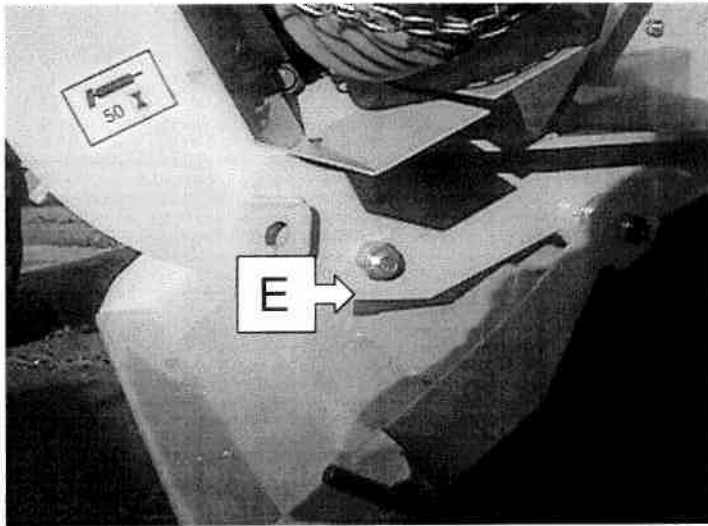
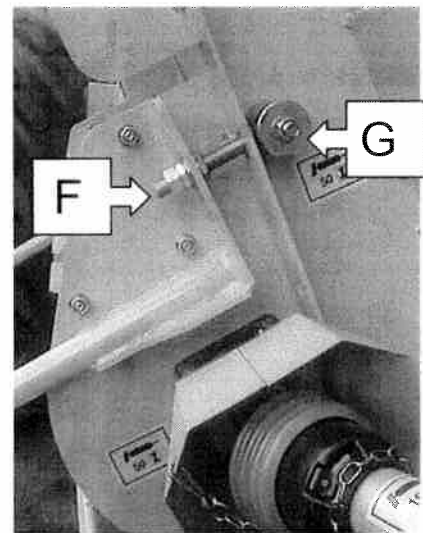
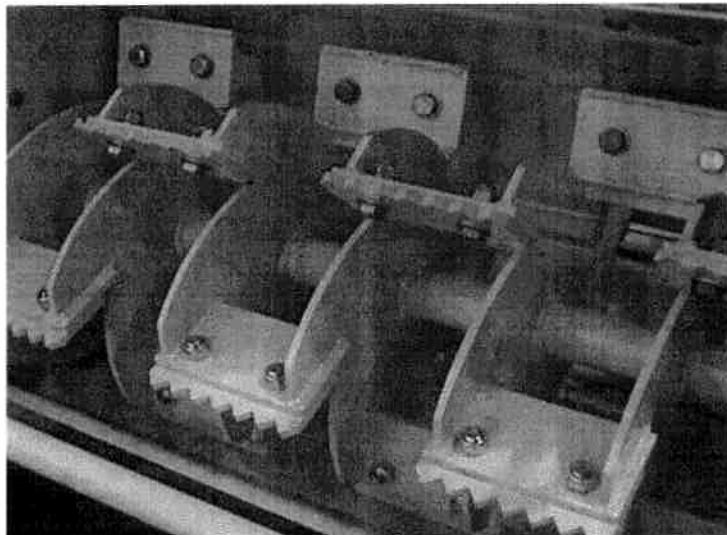

Fig 4
Fig.5
Fig.11
- 2 The drip tray will now drop away underneath; thus giving access to the impeller pivot bolts (A).
- 3 Loosen the two impeller pivot bolts (E); (See Fig.4)
- 4 Undo the four locking nuts on the impeller adjuster studs (F) ; (See Fig.5)
- 5 Loosen the two coach bolts (G) which clamp the impeller side plates to the side of the door opening; (See Fig.5)
Each Impeller blade is attached to the impeller by two bolts. The impeller should be adjusted to give approximately 5mm (3/16") clearance between the tip of the blades and the outside face of the discharge door when closed. Fig. 11 shows the blades bolted to the impeller and the adjuster studs in Fig.4 used to alter the impeller's position relative to the door.
As the impeller blades wear, the whole impeller can be adjusted inwards so as to maintain spreading capability. The distance can be easily adjusted by slackening or tightening the four nuts on the impeller adjuster studs (F) in Fig.4. In order to get the impeller to move easily it will also be necessary to slacken off the impeller pivot bolts (E) in Fig.5 and the coach bolts (G) in Fig.4.